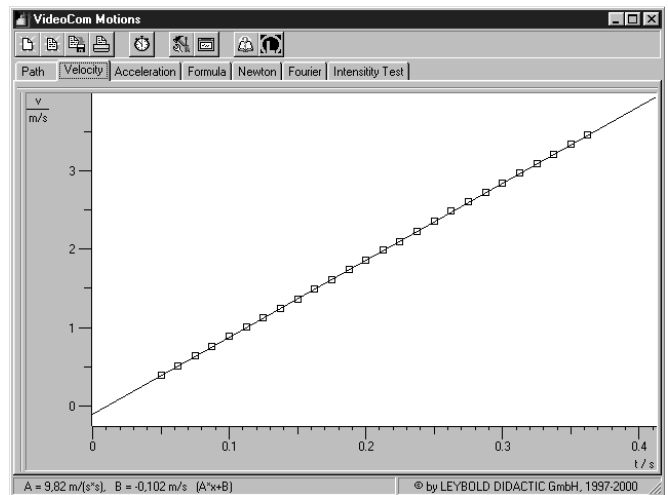
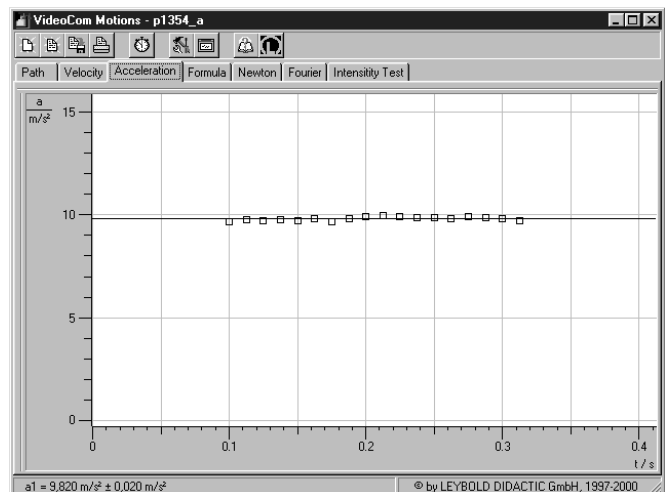

Fig. 4 Velocity-time diagram of the falling body.
Fig. 5 Acceleration-time diagram of the falling body.
The instantaneous velocity  $v$ , which is calculated from the measured values by clicking the register "Velocity", is a linear function of time (see Fig. 4 and cf. (II)). From the slope of the fitted line  $A \cdot x + B$  the gravitational acceleration is obtained:
If the instantaneous acceleration  $a$  is calculated as a function of time by clicking the register "Acceleration", constant values are obtained within the accuracy of measurement (see Fig. 5). Their mean value is
The fitting result  $B = -0.1 \text{ m s}^{-1}$  in Fig. 4 and Fig. 5 corresponds to a (physically meaningless) negative initial velocity of the falling body. Actually the recording of the measured values was started somewhat earlier than the motion of the falling body because the holding magnet released the falling body with a slight delay.